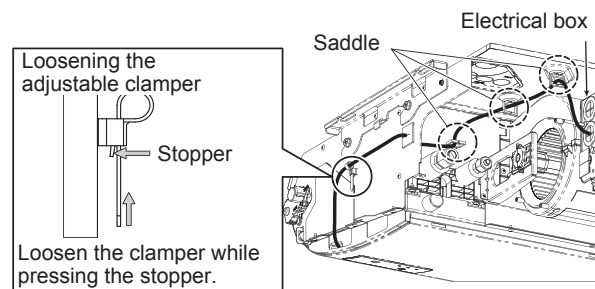

Fig. 3-2-4
- (4) Route the remote controller wiring through the adjustable clamber, and draw in the wire from the remote controller wiring inlet to the inside of the indoor unit. (Fig. 3-2-3) (See Fig. 3-2-4 for how to loosen the adjustable clamber.)
- (5) Route the remote controller wiring through the three saddles, and draw the wire into the electrical box. (Fig. 3-2-4)